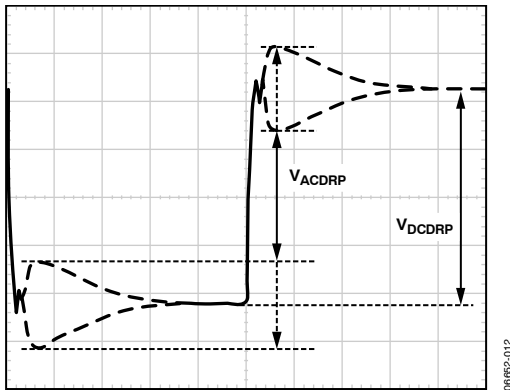

Figure 15. AC Load Line Waveform
4. Measure the output waveform. (Note that use of a dc offset on the scope may be necessary to see the waveform.) Try to use a vertical scale of 100 mV/div or finer. This waveform should look similar to Figure 15.
5. Use the horizontal cursors to measure V_{ACDRP} and V_{DCDRP} , as shown in Figure 15. Do not measure the undershoot or overshoot that occurs immediately after this step.